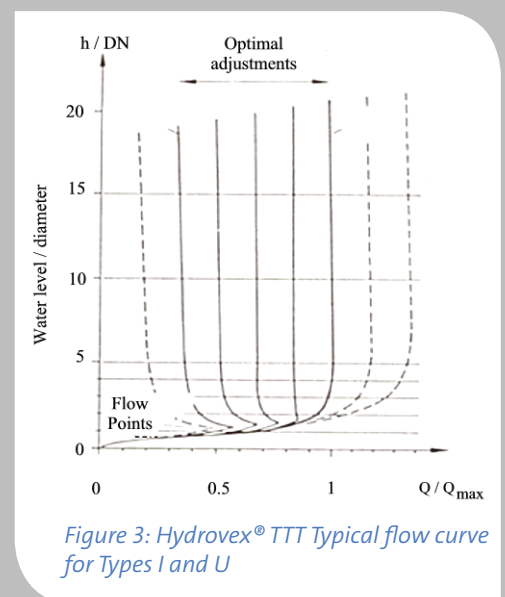

Figure 3: Hydrovex® TTT Typical flow curve for Types I and U
Figure 3 illustrates the flow range covered by all the HYDROVEX® TTT models. The curves are almost vertical for upstream water levels equal to or greater than twice the nominal inlet diameter (DN). Hysteresis effects are almost negligible. In addition, the maximum discharge occurs at very low heads, resulting in a faster draining time of the retention reservoir.